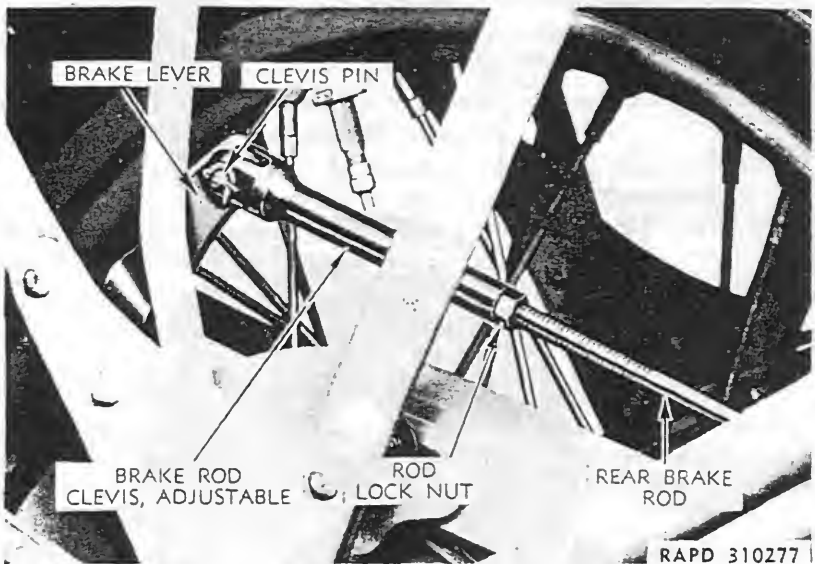

Figure 60—Rear Brake Adjustment
96. REAR WHEEL BRAKE (figs. 60, 61, and 62).
b. **Adjusting Rear Wheel Brake** (fig. 60). If brake operating lever stands ahead of vertical position, excessive lining wear is indicated. Brake shoes must be replaced (steps c and d below). Normal free play of brake foot pedal before brake operation is 1 inch. After brake takes effect in vehicle operation, brake foot pedal should have 1-inch reserve travel before bottoming on footboard. If brake foot pedal operation does not come within these limits, adjust rear brake rod as follows: